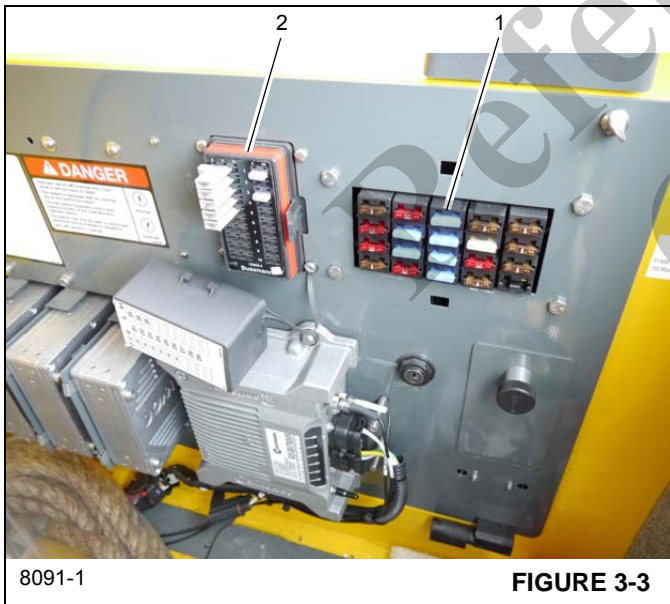
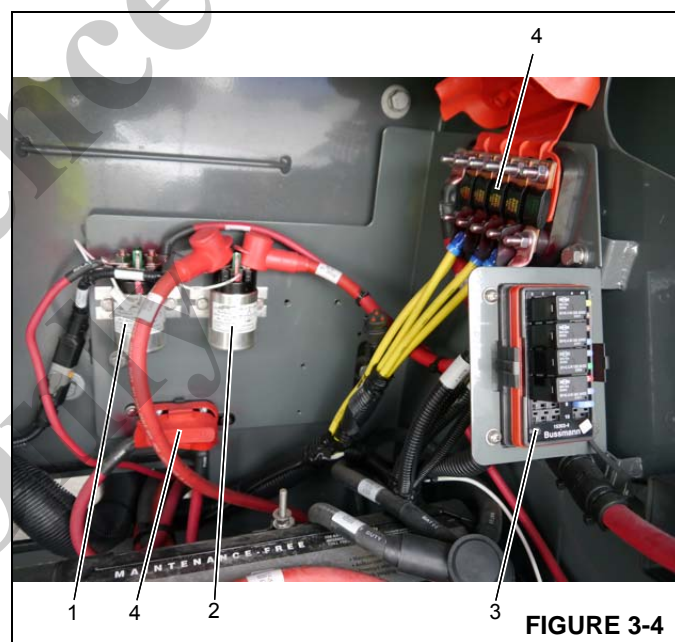

FIGURE 3-3
FIGURE 3-4
Fuses are located behind the seat in the cab (1) (Figure 3-3). In the battery box fuse panel (3) (Figure 3-4) and in the battery box (4).
The relays are located at the back of the battery box (Figure 3-4): relay K-301 start relay (1) and relay K-302 grid heater relay (2).